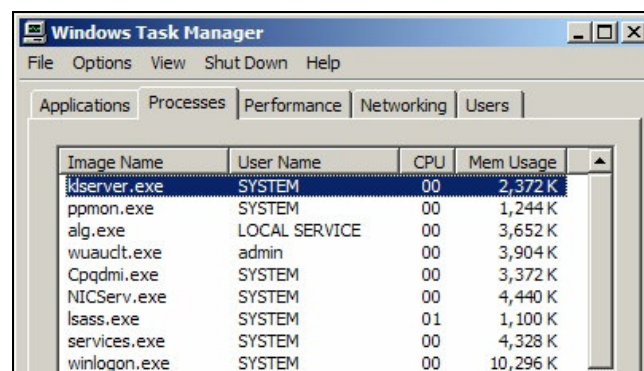

Figure C.9
- d) Using Task Manager, verify that the 'klserver.exe' process is running. (see figure C.9)